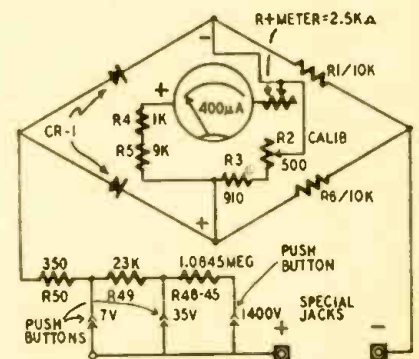

Fig. 4—Circuit for a.c. voltmeter function.
1. On a.c. volts (Fig. 4), the ohms-per-volt sensitivity depends on both the basic full-scale current of the meter and the characteristics of the rectifier. This component (usually of the copper-oxide type) is important in obtaining good a.c. scale characteristics, since a simple half-wave (single) rectifier would give a different scale for each voltage range. Rectifiers arranged either 2 in series, or 2 back-to-back, or sometimes 4 in a full-wave bridge connection, are therefore most common.